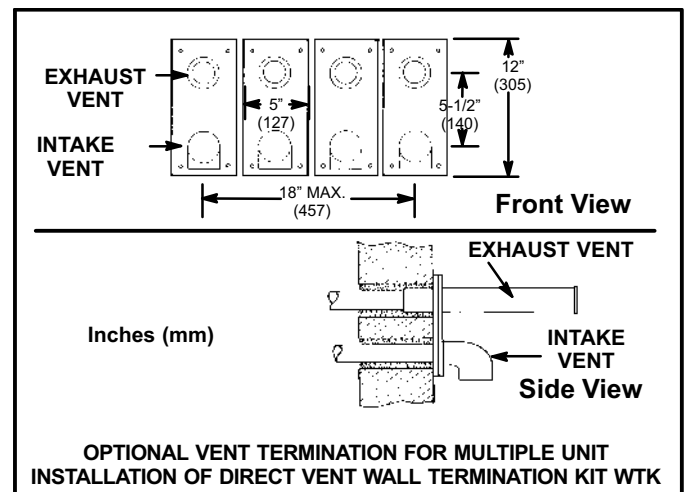

FIGURE 35
9. Based on the recommendation of the manufacturer, a multiple furnace installation may use a group of up to four termination kits WTK assembled together horizontally, as shown in figure 35.